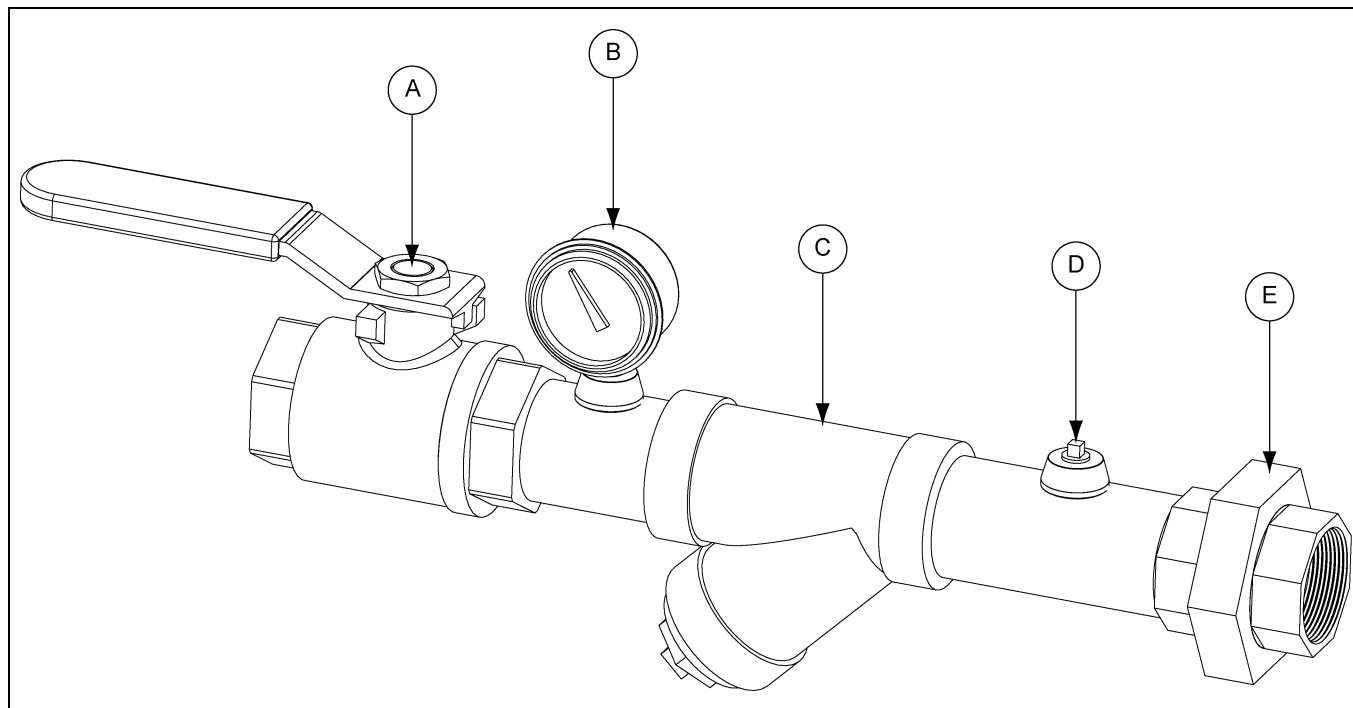

Figure 3B
1. Pressure from supply read at inlet gauge. (See Figure 3B on Page 26.)